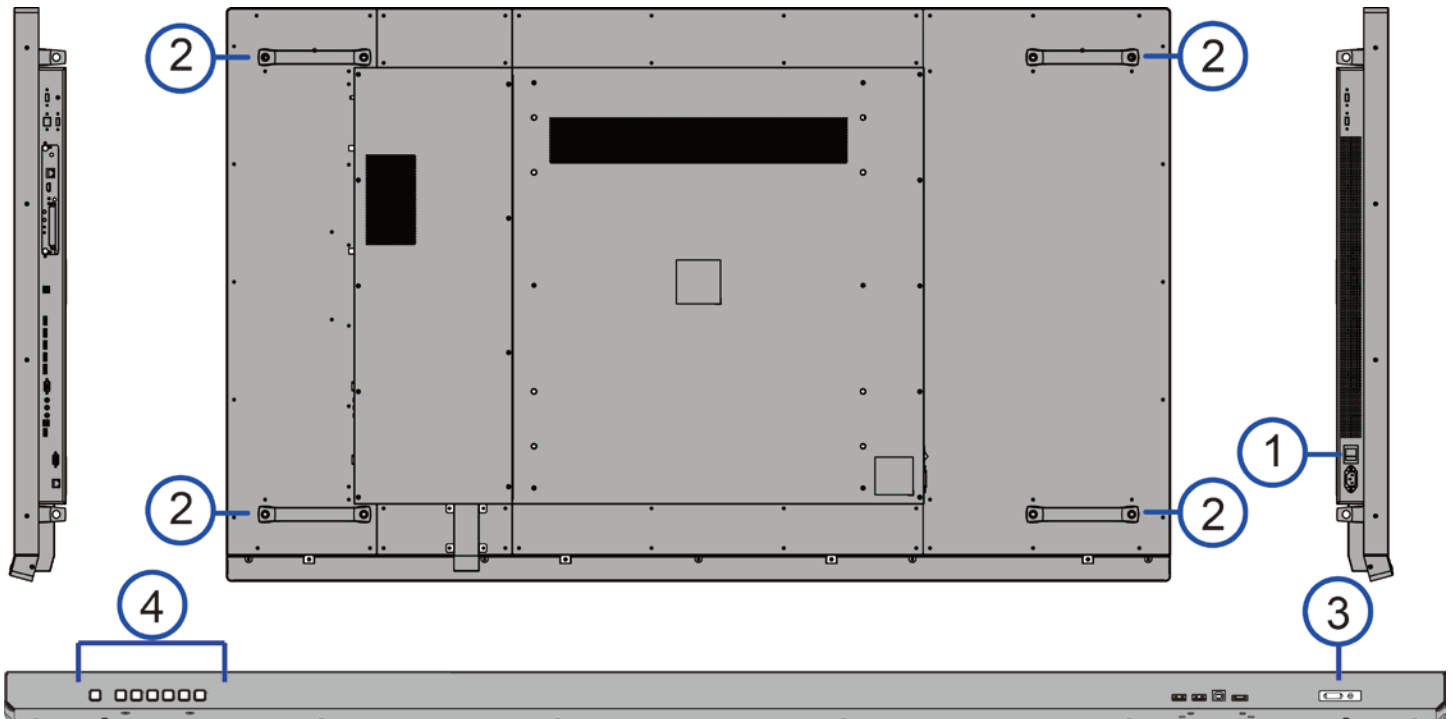

Figure 2-1. Display Rear/ Side / Front View
- Figure 2-1. Display Rear/ Side / Front View 19
Figure 2-1 shows the key display components, and the paragraphs that follow describe them.